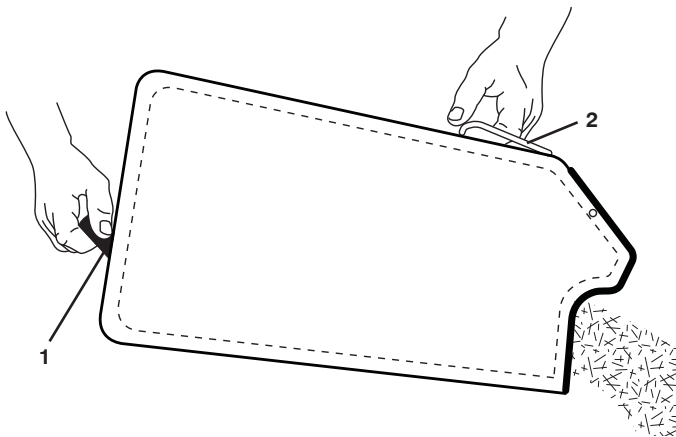

Figure 15
1. Lift up on grass catcher using the frame handle (Figure 15).